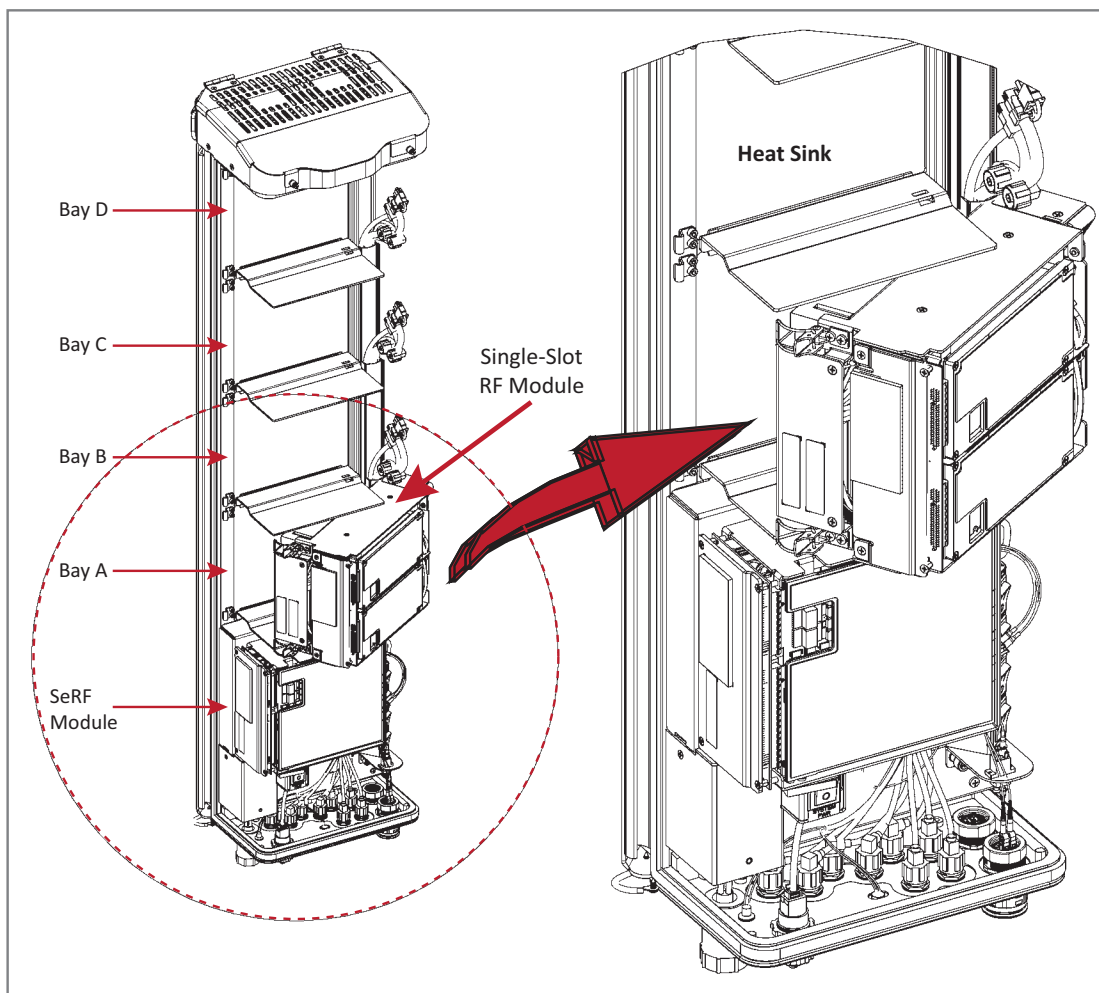

Figure 21. Installing a Single-Bay RF Module
- Single-Bay RF Module: Figure 21 on page 91